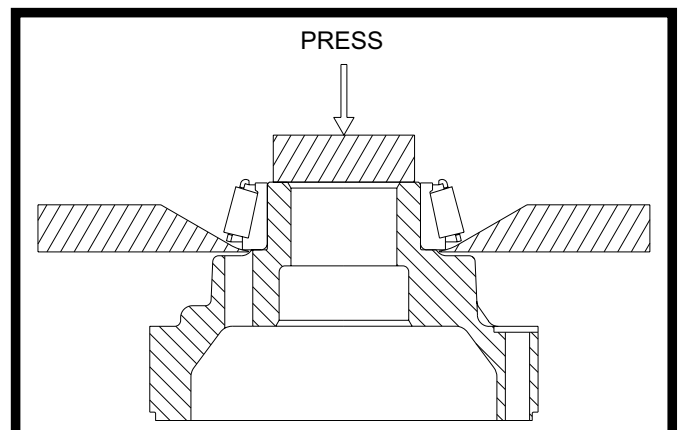

Fig 33
7. Place the rear differential case half assembly in a press such that the bearing cone is supported by a bearing separator plate. See Figure 33. Press the bearing cone assembly from the case.